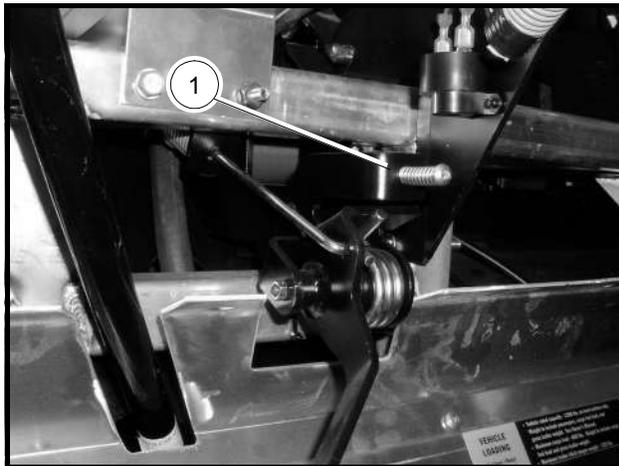

Figure 13a-24 High-speed Adjustment Screw
3. Adjust the high-speed adjustment screw (1) until the tachometer displays 3825 ± 25 RPM (**Figure 13a-24, Page 13a-25**). **See following NOTE.**